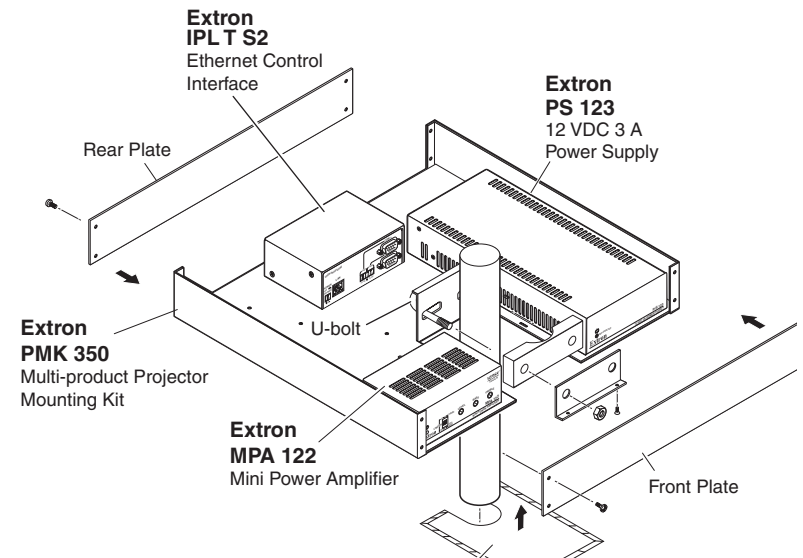

Figure 10 — Projector mounting the PS 123
The PMK 350 is an above-projector mounting kit that attaches to a 1" to 2" diameter projector mounting pole (figure 10). It can hold more than one device, in a variety of sizes. The PMK 350 is available in black (part #70-563-02) or white (part #70-563-03).
1. Remove the front and back plates from the PMK 350 (figure 10), using an Extron Tweezer or a #2 Phillips screwdriver. Retain the screws to reattach the plates when you are finished.
4. Place the PMK 350 around the projector ceiling mounting pole (figure 10, above).